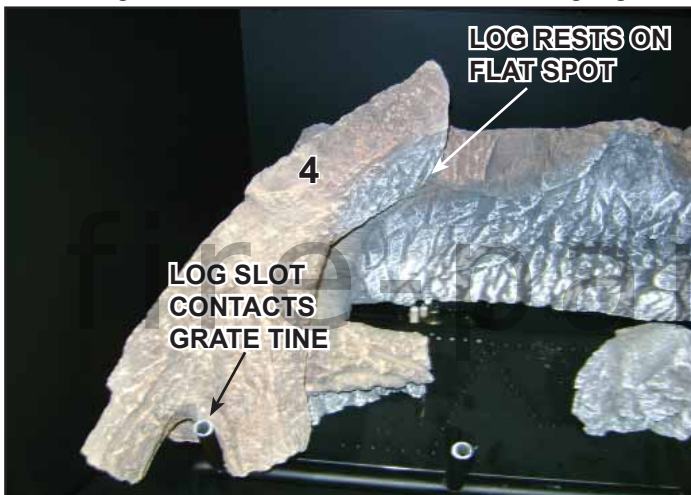

Figure 8. Log #4
**Log #4 (SRV2224-703):** Position Log #4 as shown in Figure 8. See Figure 2 and Figure 3 for additional details. Place the top end of log #4 on the flat spot of Log #1. Position Log #4 so the groove located on the right side of the forked end contacts the left grate tine.